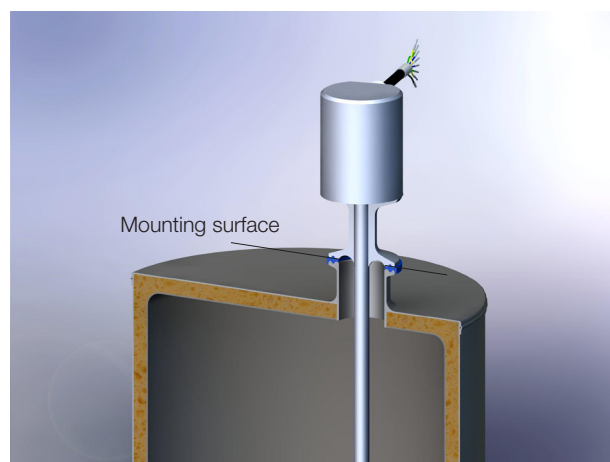

Fig. 4-5: Installing the BTL
2. Place the transducer on the mounting surface, so it makes full contact and perfectly seals the hole (see Figure 4-5).